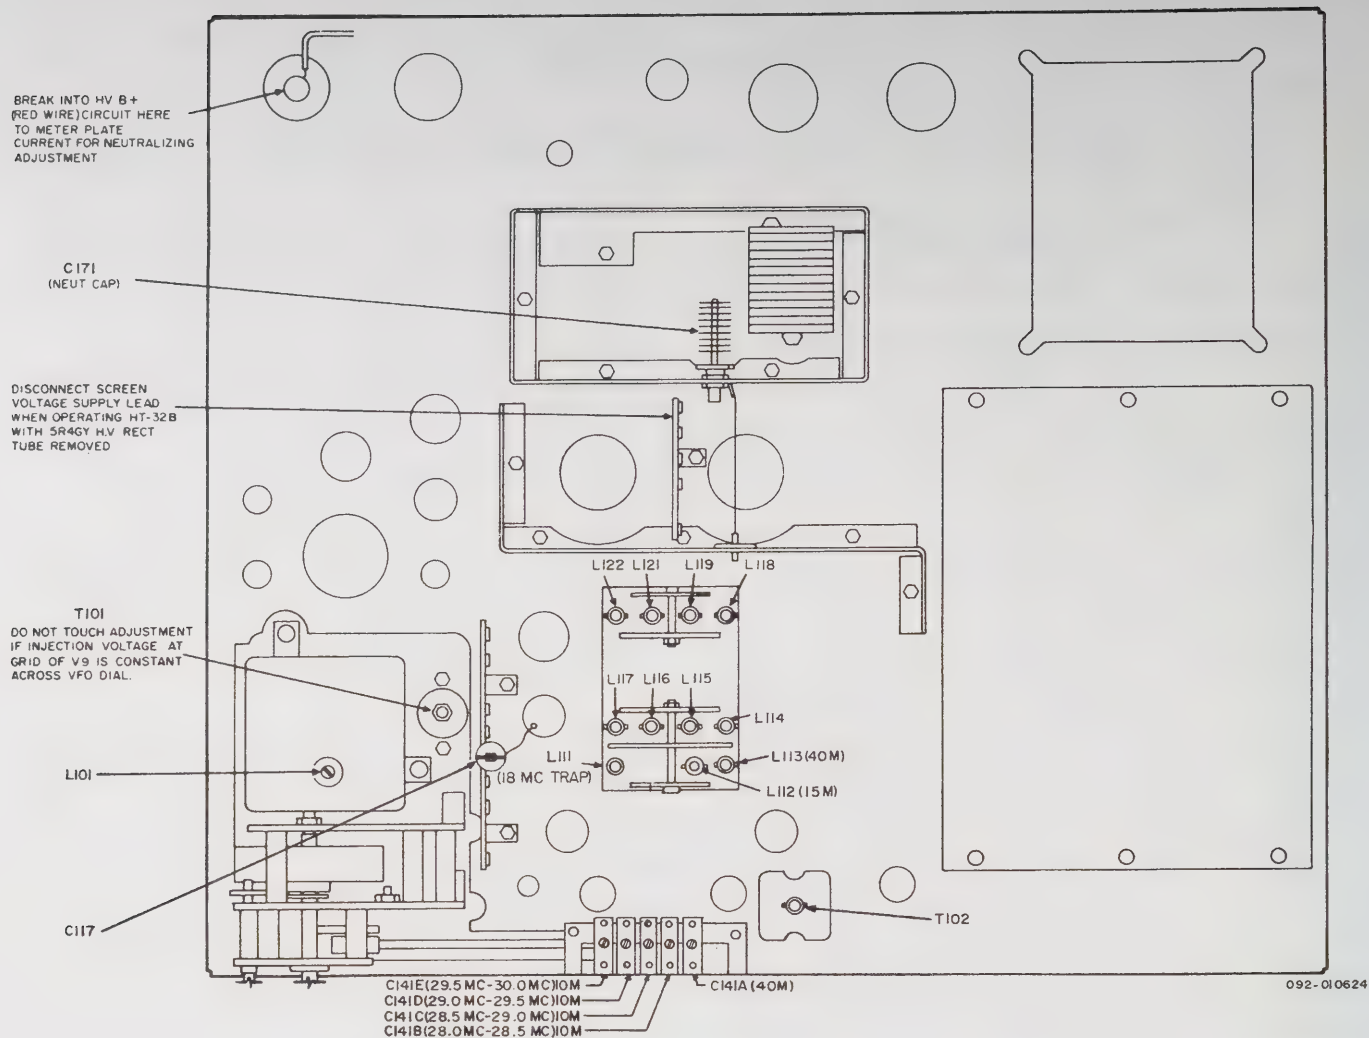

Figure 10. Alignment Points, Chassis Bottom
7. Repeat steps 5 and 6 for the remaining three 10M segments. Refer to chart above and Figure 10 for trimmer symbol and location.